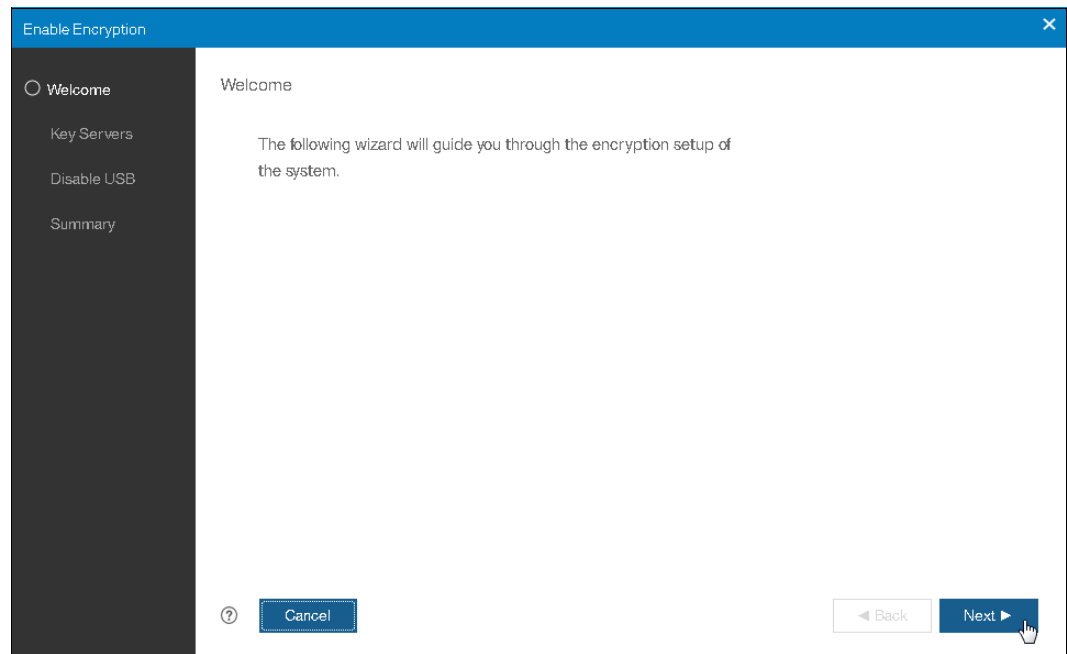

Figure 7-46 Encryption Configuration wizard for key server
10. The Enable Encryption wizard guides you through the encryption setup process for key server. Click **Next**, as shown in Figure 7-46.